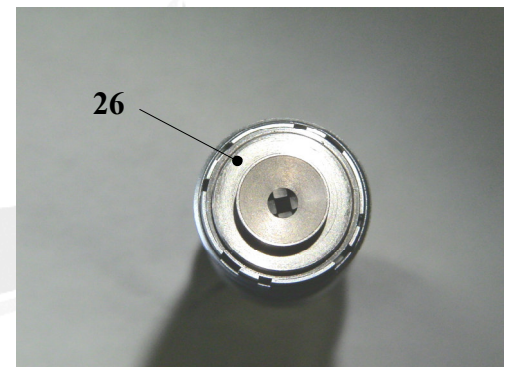

Fig. 16
- Push all four centering jaws **(25)** outwards to the stop on the stripping head and carefully put the helixes **(26)** in place Fig. 16.